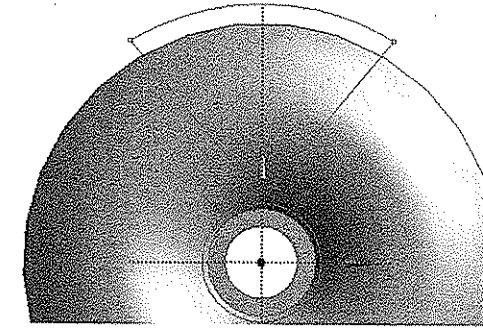

Figure 5-13 The fillet created at the intersection of two line segments
9. Select the intersection point of the two inclined line segments of the polyline; the fillet is created, as shown in Figure 5-13. Next, exit the **Fillet** tool.